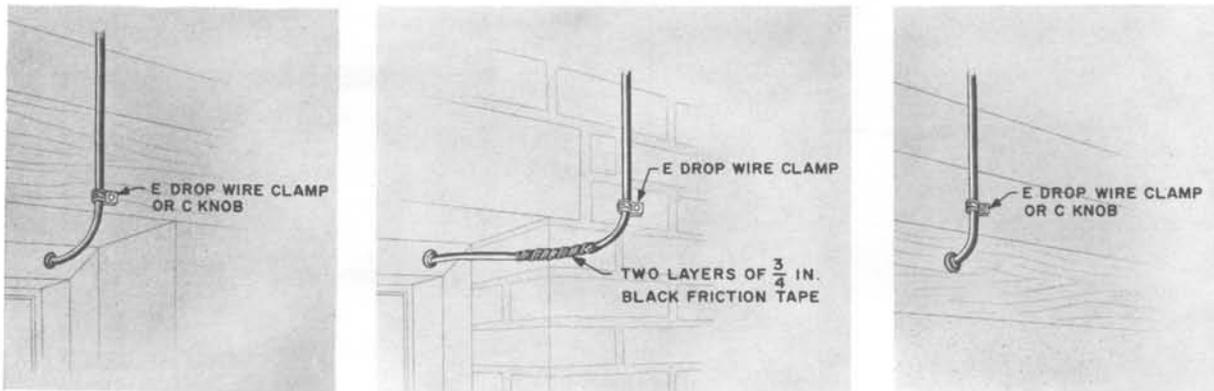

Fig. 15 – Last Attachment (Building Entrance Hole Slopes Upward from Outside)
4.00 LAST ATTACHMENTS ON BUILDINGS (Fig. 15 and 16)